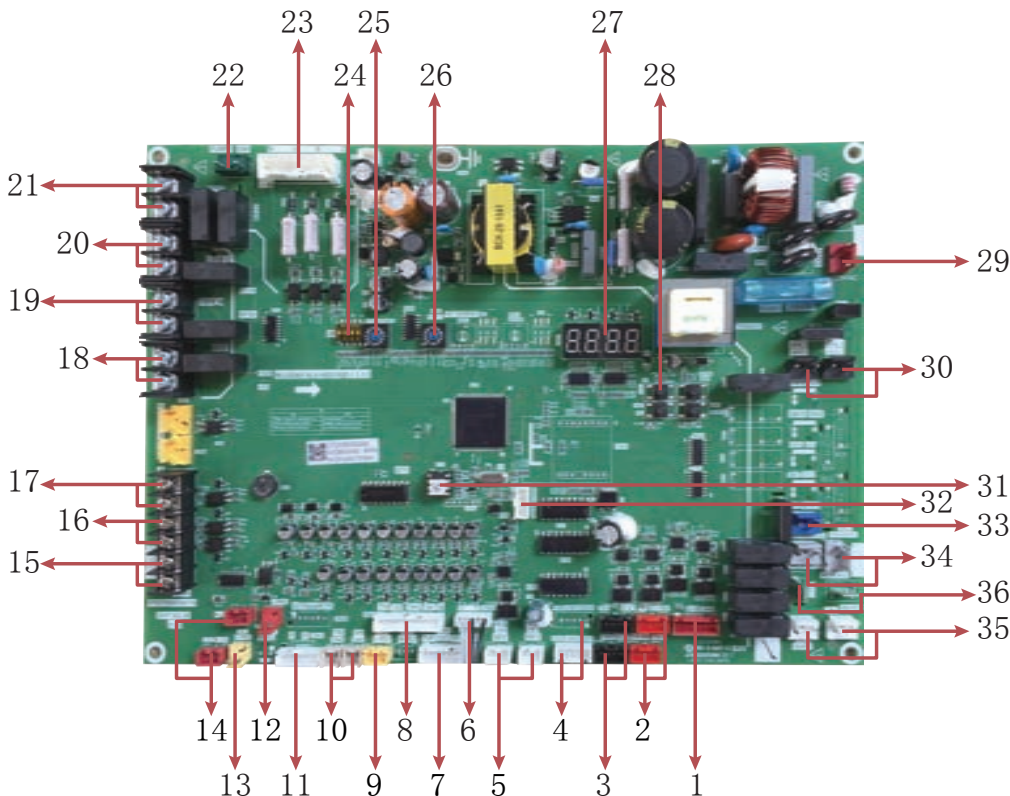

Fig.5-4
- 5.5.2 Indicating diagram of electric control of main control board (see Fig.5-4)
5.6 Detail description for parts in fig. 5-4